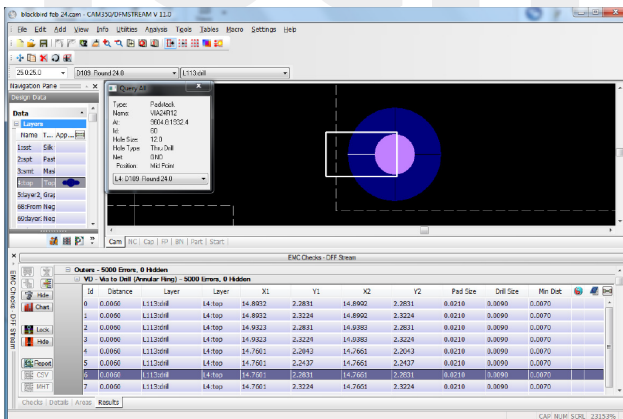

Abbildung 5: Signal Layer - Annular Ring
- Annular Ring Checks (Abb. 5)